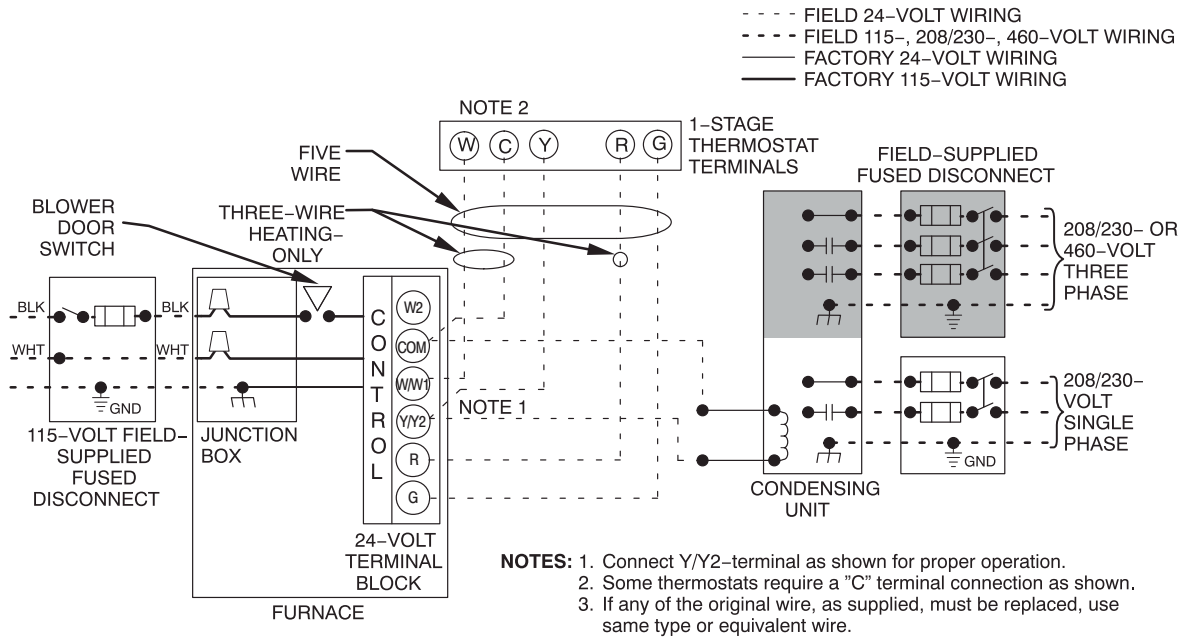

Fig. 37 – Typical Two-Stage Field Wiring Diagram
- Connect power cord power and neutral leads to furnace power leads as shown in **Fig. 37**.
- Connect field power and neutral leads to furnace power leads, as shown in **Fig. 37**.
Make field 24-v connections at the 24-v terminal strip. See **Fig. 38**. Connect terminal Y/Y2 as shown in **Fig. 37** for proper cooling operation. Use only AWG No. 18, color-coded, copper thermostat wire.